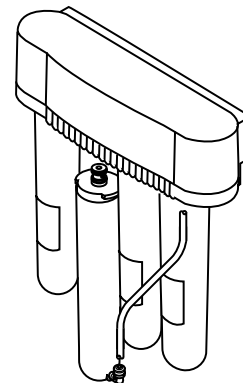

Fig. 8
- 1) Lift up on the faucet handle to drain the tank. Close the cold water supply valve. Wait five (5) minutes for the filtration assembly to completely depressurize.
- 2) Remove cover and twist the filter cartridge 1/4 turn clockwise so that the ears on the cartridge are able to disengage from the head. Firmly pull the cartridge from the head. It may be necessary to twist the cartridge slightly from side to side to help free it. (See Fig. 8)
- 1) Close the cold water supply shut off valve. Lift up on the faucet handle to drain the tank. Wait five (5) minutes for the filtration assembly to completely depressurize.
- 2) Make sure that there is some slack in the red SFC tubing connected to the fitting at the bottom of the RO membrane cartridge. Twist the cartridge 1/4 turn clockwise so that the tubing connection is accessible. (See Fig. 8)